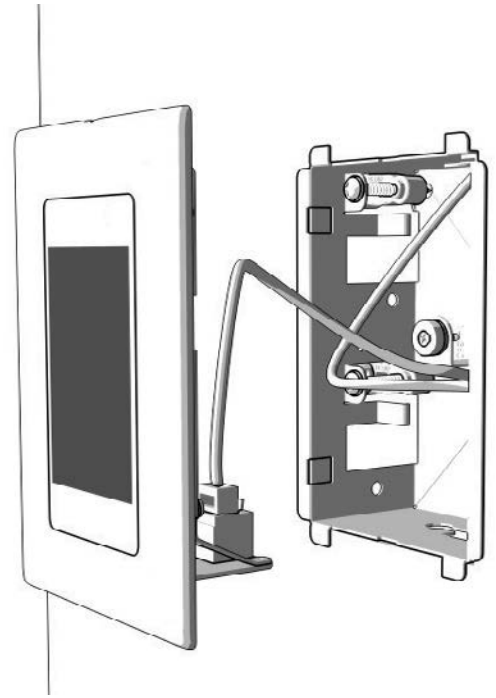

Figure 9: Attaching Assembly
12. Attach the assembly to the mounting frame as shown in **Figure 9**.